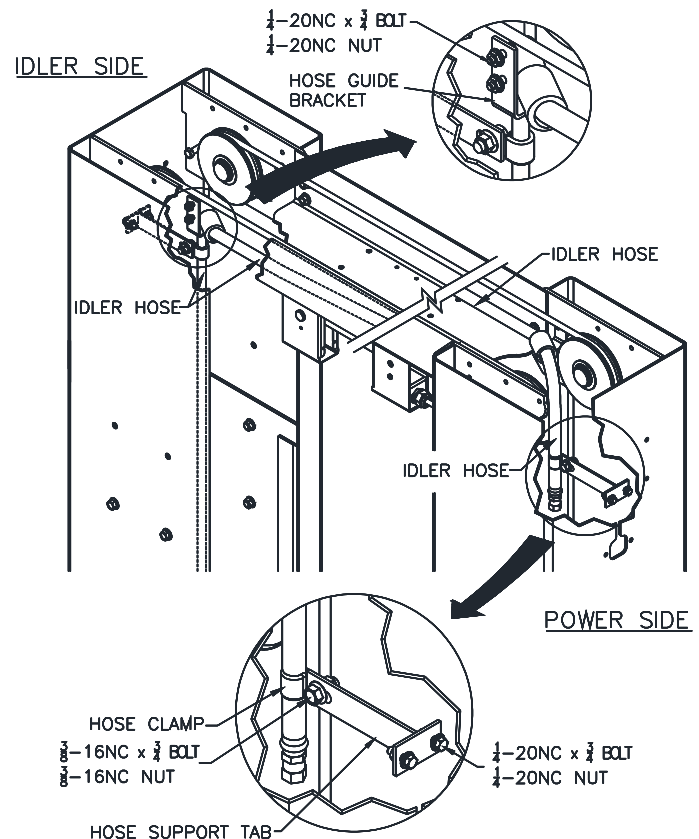

Fig. 13 – Idler Hose Routing & Hose Brackets
34) Install the Hose Guide Brackets and Hose Support Tabs to both the Idler & Power Columns using 1/4"-20NC x 3/4" lg. hex flange bolt and nut, see **Fig 13**.
35) Uncoil Idler side hose and Overhead hose and attach them together. Route the loose end up the Idler Side column extension and attach to the Hose Support Tab with a "P" Clamp, **Fig. 13**. (Each hose clamp requires one 3/8"-16NC x 3/4" lg. hex flange bolt and one hex flange nut.) Remove slack and tighten the clamp.
36) Route hose across overhead through both Hose Guide Brackets, **Fig.13**, and down through the Power Side column extension. Do not attach clamps to the Overhead Hose at this time.